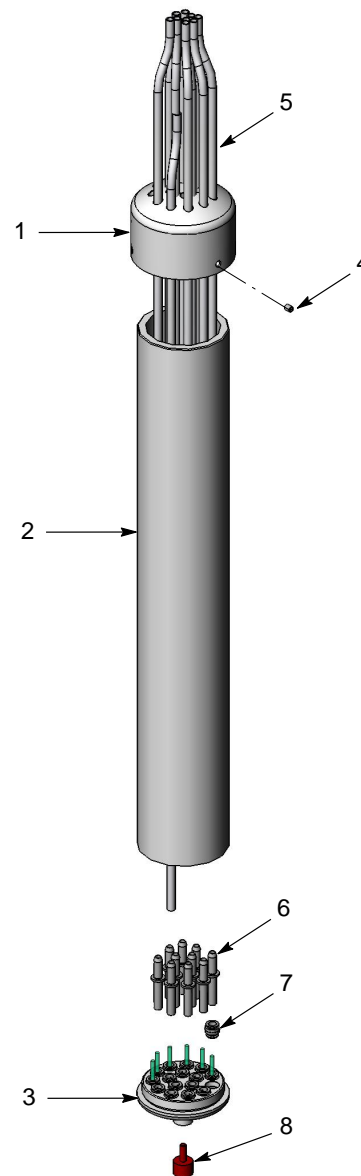

Figure 2 Lance Assembly Repair and Parts
Parts are shown in Figure 2.
1. See Figure 2. Disconnect the powder tubing (5) from the Prodigy HDLV pump.
2. Loosen the three set screws (4) then pull the cap (1) off the body (2). Slide the cap several inches up the existing powder tubing.
3. Unscrew the body from the head (3). Pull the head away from the body to access the tubing adapters (6).
4. Press down on the tube fittings (7) and pull the tubing adapters (6) out of the tube fittings.
5. Remove the adapters (6) from the tubing (5), then pull the tubing off the cap (1) and body (2).
See Figure 2